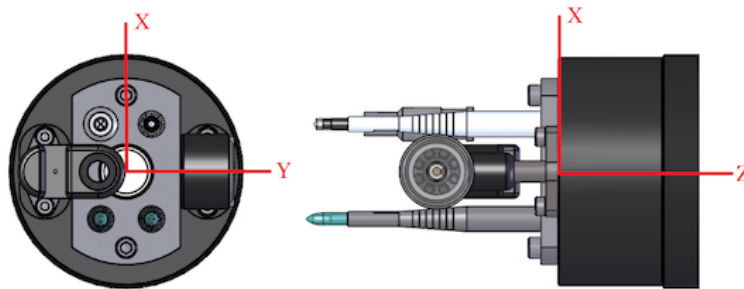
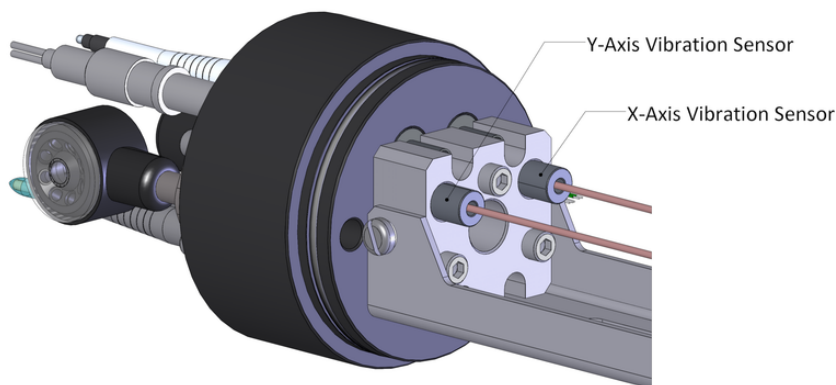

Figure 2: Coordinate System
Figure 4: Vibration Sensors
The coordinate system of the MicroCTD is as follows (Figure 2):
Two vibration sensors are installed on the frame mounting block that is located inside the instrument (Figure 4). Each vibration sensor is a piezo-accelerometer that is fixed in position and cannot be adjusted or removed. The vibration sensors are alternating current (AC) sensors and are treated like shear probe channels. Their primary purpose is to sense the vibrations of the instrument in the x- and y-directions (Figure 2). Common-mode vibrations measured by both the vibration sensors and the shear probes (such as vibrations induced from the instrument) can be removed from the shear signals during post-processing of the data.